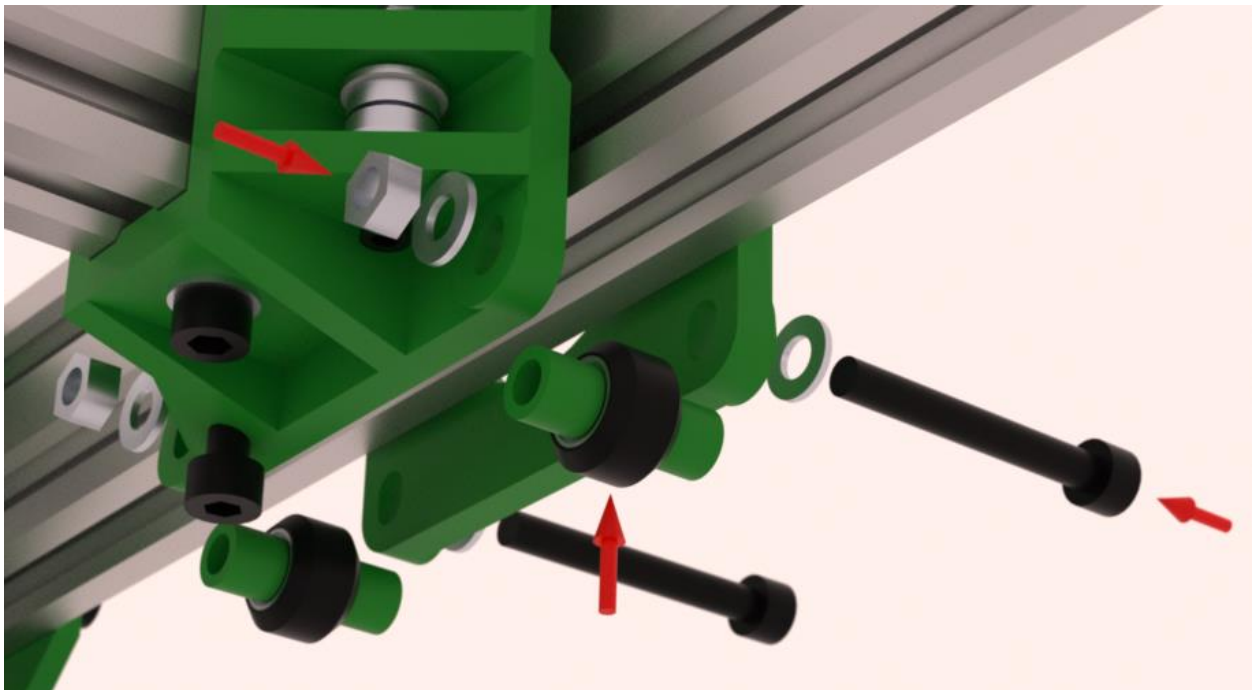

Figure 50: Lower XY gantry wheels installation
- Install the four lower wheels on the left and right H-bar ends as shown in Figure 50.